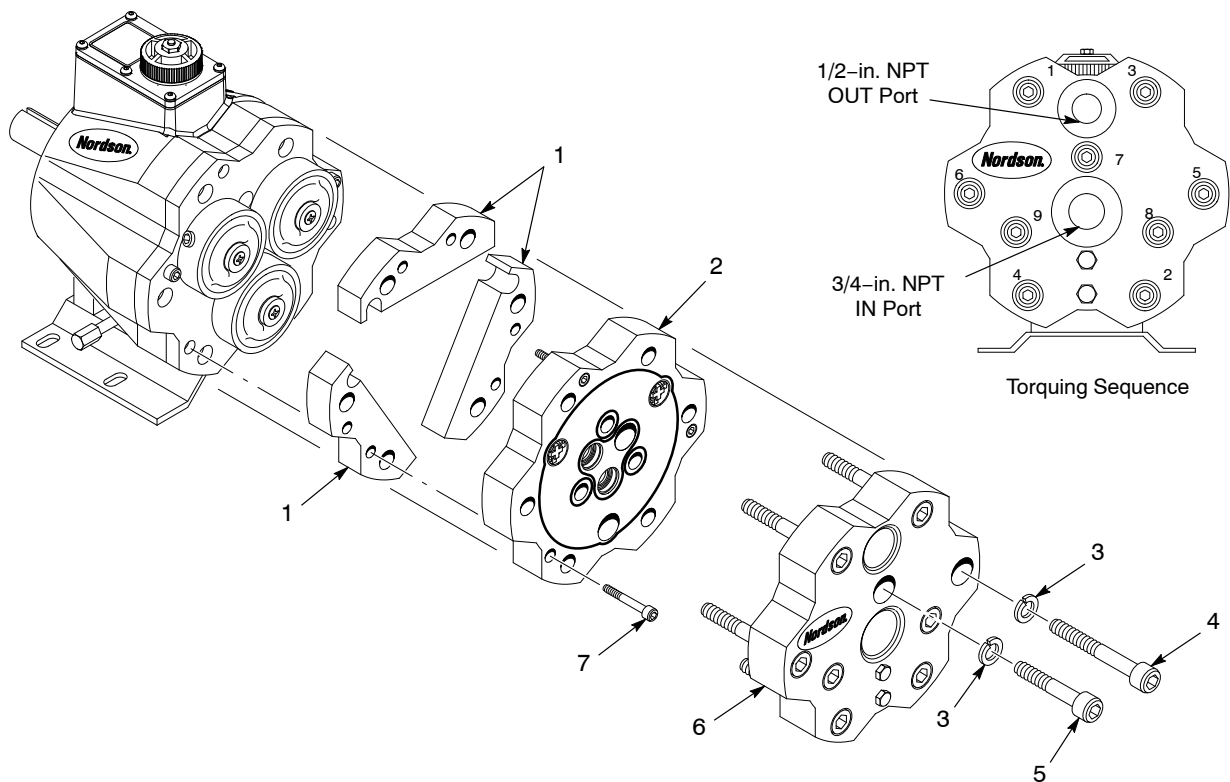

Figure 8 Assembling the Fluid Section
1. See Figure 8. Place the diaphragm plates (1) on the pump.
2. Use the screws (7) to secure the valve plate (2) and diaphragm plates on the pump.
3. Use the screws (4, 5) and lock washers (3) to install the end plate (6). Torque screws to 74–81 N•m (55–60 ft-lb). Follow the torquing sequence shown in the illustration.